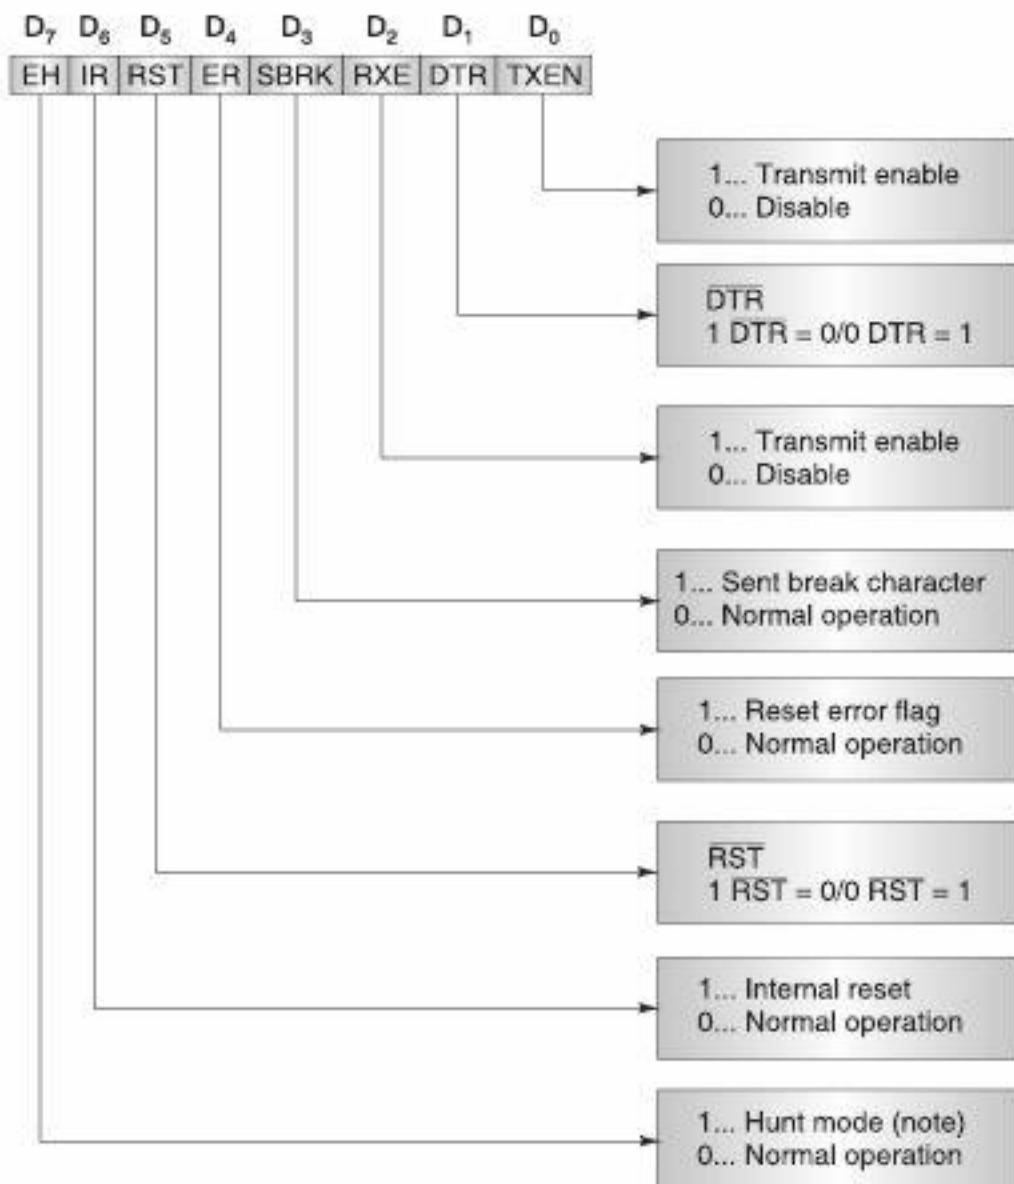

Fig. 5.33 Bit Configuration of Command.
**(b) Command:** Command is used for setting the operation of the 8251. It is possible to write a command whenever necessary after writing a mode instruction and sync characters. The command format is shown in Figure 5.33. The items to be set by command are as follows: